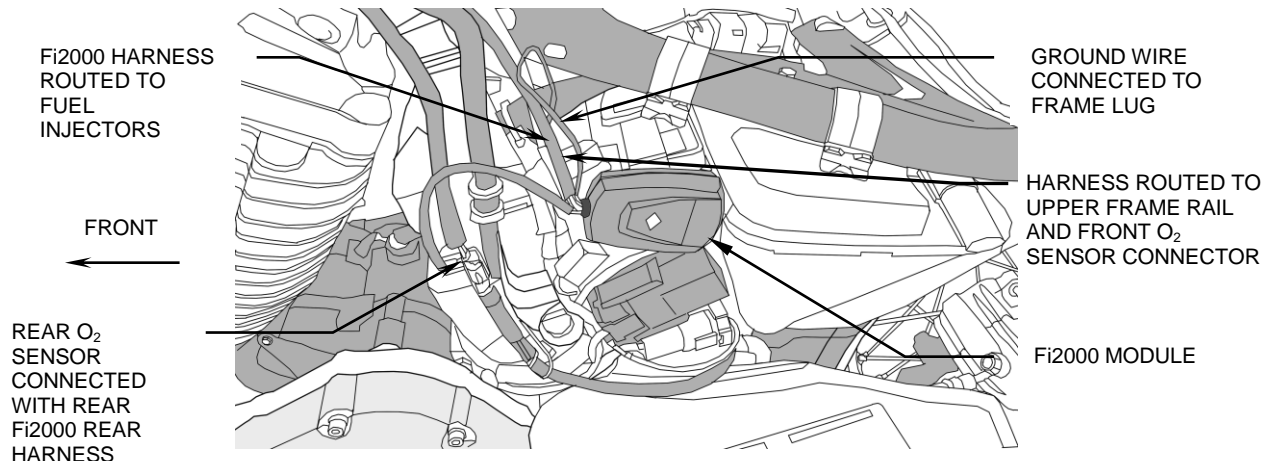

FIGURE 1
3. Velcro the Fi2000 module to the side of the battery so that the module housing is no higher than the top of the battery, see Figure 1.
6. Now install the oxygen sensor harnesses. Locate the rear O₂ connector that is directly in front of the battery on the left hand side. Remove screw securing the plastic cover and pull it forward to release the stock O₂ connectors from the snap in the panel. Pull the stock connectors apart by lifting up on the tang on the shorter connector. Plug the corresponding Fi2000 connectors from the shorter harness into the Harley connectors. Clip the Harley connector back onto its original mounting spot, along with the additional set of connectors, and four pin connector and harness coming from rear of fuel tank see Figure 1. Re-secure with stock screw.